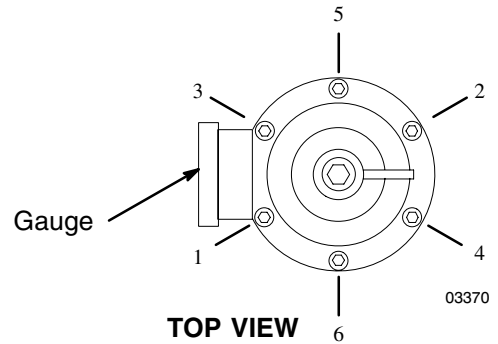

Fig. 3
Before installing the regulator, check the tightness of the screws (1). Refer to Fig. 3 for the tightening sequence and the torque value. If the regulator leaks during operation, check and torque the screws again.
1. Using the hex end of key (25), adjust screw (20) all the way counterclockwise to relieve regulator spring tension.
2. Remove outlet bushing (15) and counter-balance spring (29) (Model 204500 only) from the body.
3. Unscrew valve stem (27) from diaphragm hanger (28) with adjusting key. See Fig. 3.
4. Remove screws (1), regulator cap (17), spring adjusting screw (20), spring (13), and spring cap (30) (Model 204500 only).
5. Lift diaphragm (31) and hanger from body. Disassemble the hanger and diaphragm only if damaged.
6. Unscrew valve seat (26) from body with a 9/16" socket wrench. See Fig. 3.
The hanger should be in line with one set of holes and the nut should be torqued to 20 ft-lb (27 N•m). Turn the valve stem snugly against the seat and then back off 1/2 turn on model 204500 and 3/4 turn on other models to set valve clearance. When installing the cap (17), line up finger of spring adjusting nut (12) with the groove in the cap (17). Torque the six screws (1) evenly to 120–130 in-lb (13.6–14.7 N•m) three times consecutively, in the order shown in the **TOP VIEW**, to compensate for diaphragm relaxation. See Fig. 3.
△1 See torque sequence in Fig. 3.